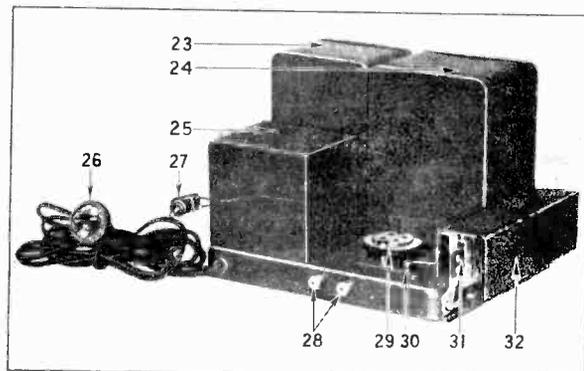

Fig. 5—Top of Socket Power Unit
- c. Defective power transformer No. 24, Fig. 5.
- Shorted condenser unit No. 25, Fig. 5.
- Open choke No. 23, Fig. 5.